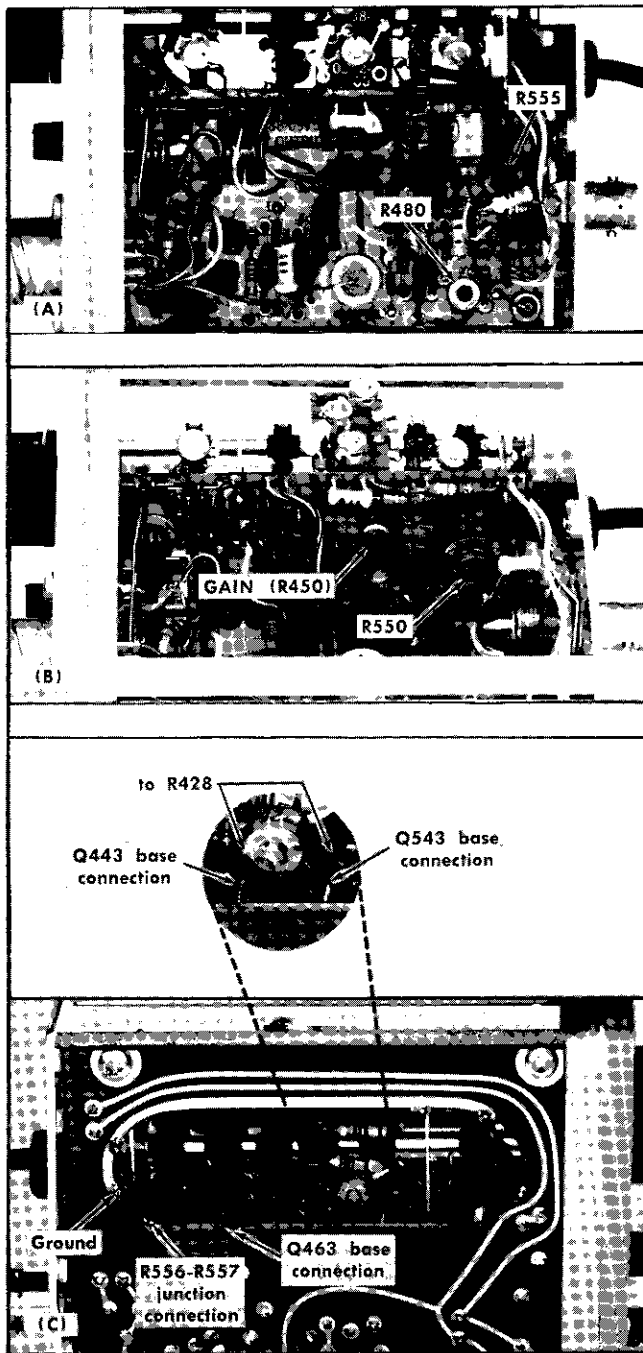

Fig. 6-24. Test points and adjustment locations for steps 3 and 5.
e. CHECK and ADJUST—Amplifier DC balance. The trace should remain exactly at graticule vertical center under the setups given in Table 6-6. Perform the steps in the sequence given. Temporarily solder a 10 Ω $\frac{1}{4}$ W resistor (item 28) between indicated points while making each adjustment. The resistor and lead length should be cut to $\frac{3}{4}$ inch (end to end) to minimize circuit interference. See Fig. 6-24 (B) and (C) for connection and adjustment locations.
- 42 inch 50 Ω cable (item 9)
- GR to BNC female adapter (item 12)
- Probe tip to GR adapter (item 13)
- g. ADJUST—GAIN, R450, Fig. 6-24 (B), to provide exactly 4 divisions of vertical display.